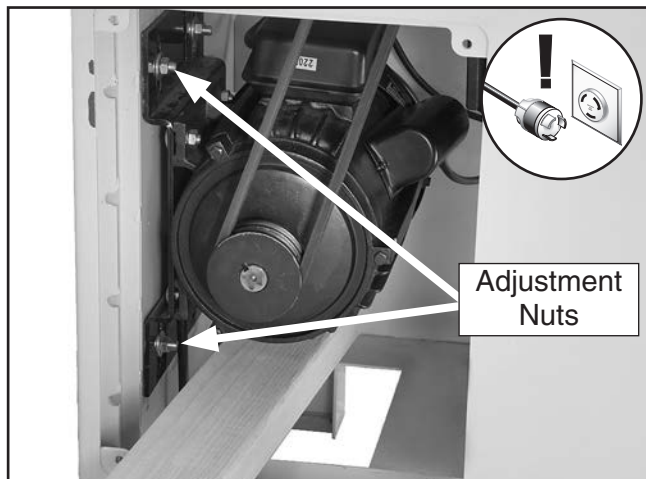

Figure 47. Removing V-belt tension.
4. Using a 14mm wrench, loosen the four adjustment nuts and raise the motor (see **Figure 47**) to remove V-belt tension. It may help to use a 2x4 to lift the motor.